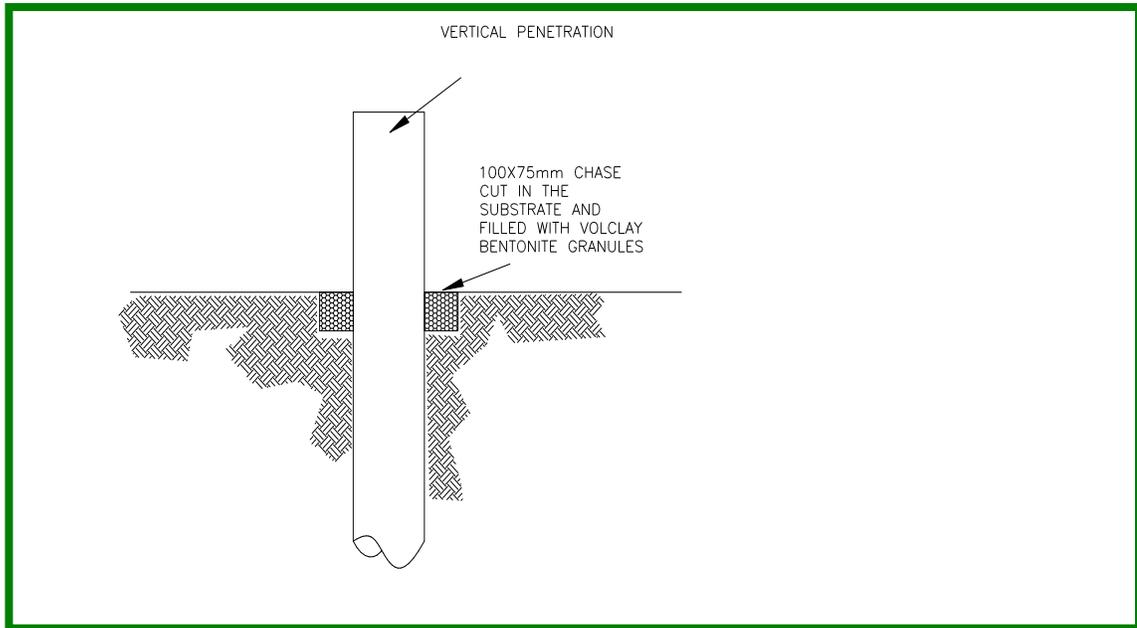
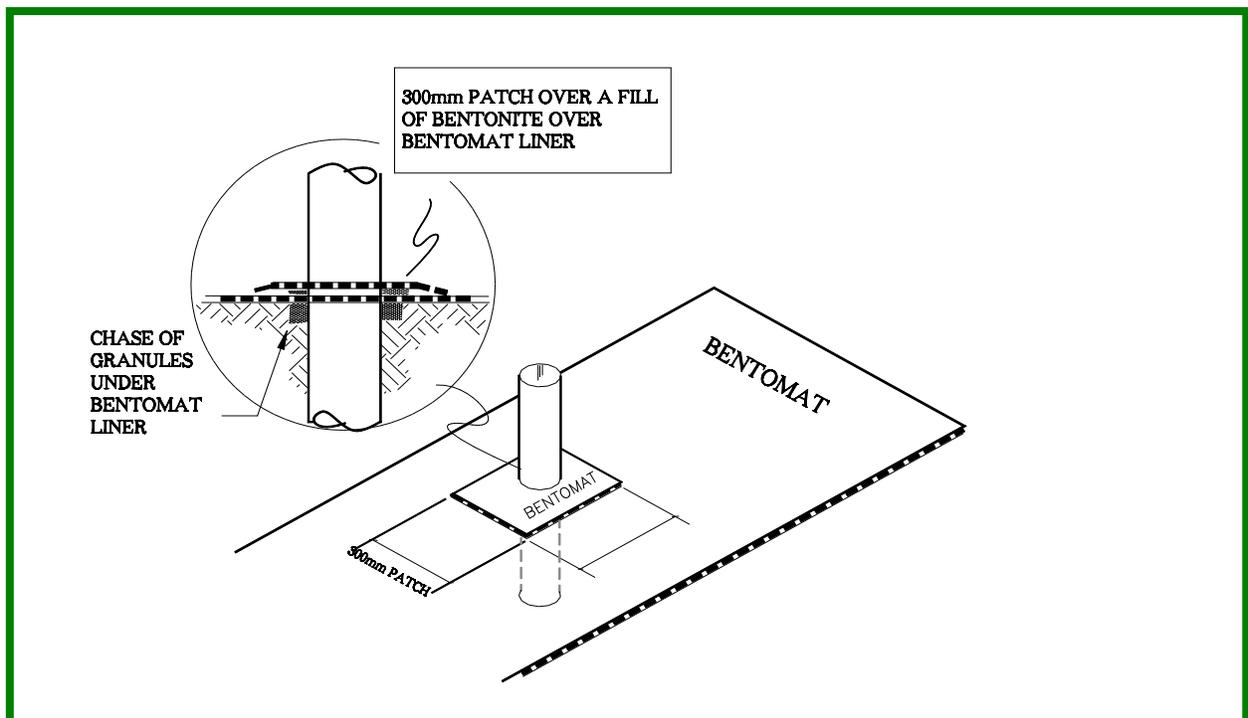

Figure 5a. Cross-section of a vertical penetration.
Figure 5b. Isometric view of completed vertical penetration.
- 8.5 Vertical penetrations are prepared by notching into the sub-grade as shown in Figure 5a. The penetration is completed with two separate pieces of GCL as shown in Figure 5b. A secondary collar is optional in this case.